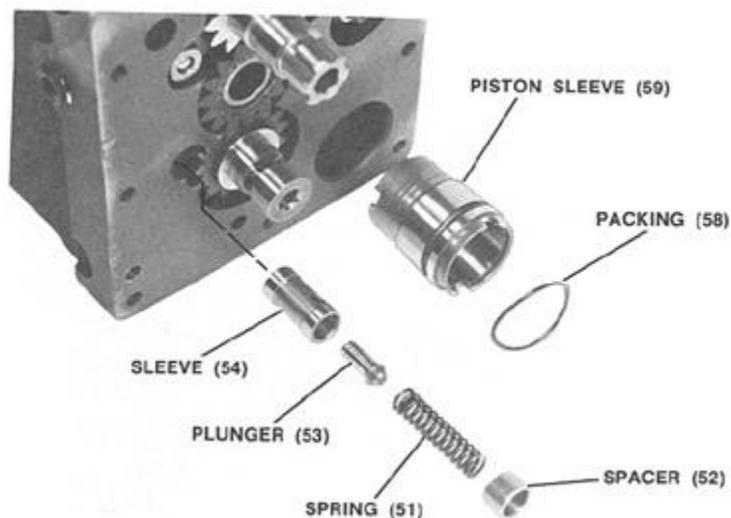

Figure 5-22. Relief Valve & Piston Sleeve Assembly
- A. If idler gear stud (39) has been removed, although this should not be necessary, press it into case until its end is just below face surface.
- B. Insert pilot valve bushing assemblies (41) and (45) and idler gear (60) into case as shown. Gears should all mesh.
19. Refer to Figure 5-22.
23. Refer to Figure 5-22.